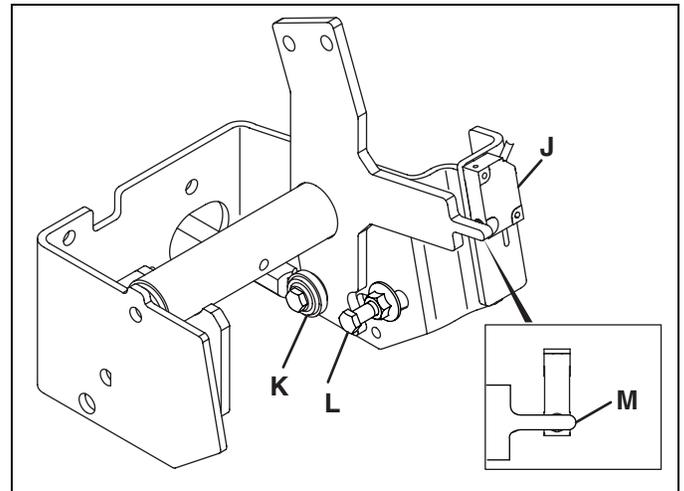

Figure 3E
3. Check that tow valve (H) is closed
4. Engage parking brake and set mow switch to neutral. Make sure neutral switch at traction pedal is closed. (Figure 3E - M). Distance between the switch and metal pointer "M" must be between 0.060" and 0.120".
5. Loosen screws (G) holding pump lever bracket just enough so it can be moved. Start engine and observe wheels. Adjust bracket (F) in slotted holes until wheels do not turn. Turn off engine and tighten bracket in place.
6. Connect traction linkage. When connecting linkage at traction pedal make sure pointer on traction pedal bracket is centered over neutral switch (M -Figure 3E).